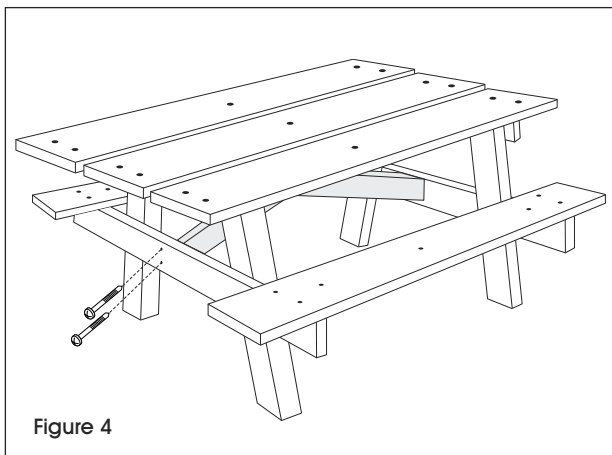

Figure 4
7. Loosely drill the two tabletop supports (equal angles) to the underside of the A-Frame table with the tabletop support (different angle) in the middle using 3" deck screws (will tighten later in step 8). (See Figure 4)